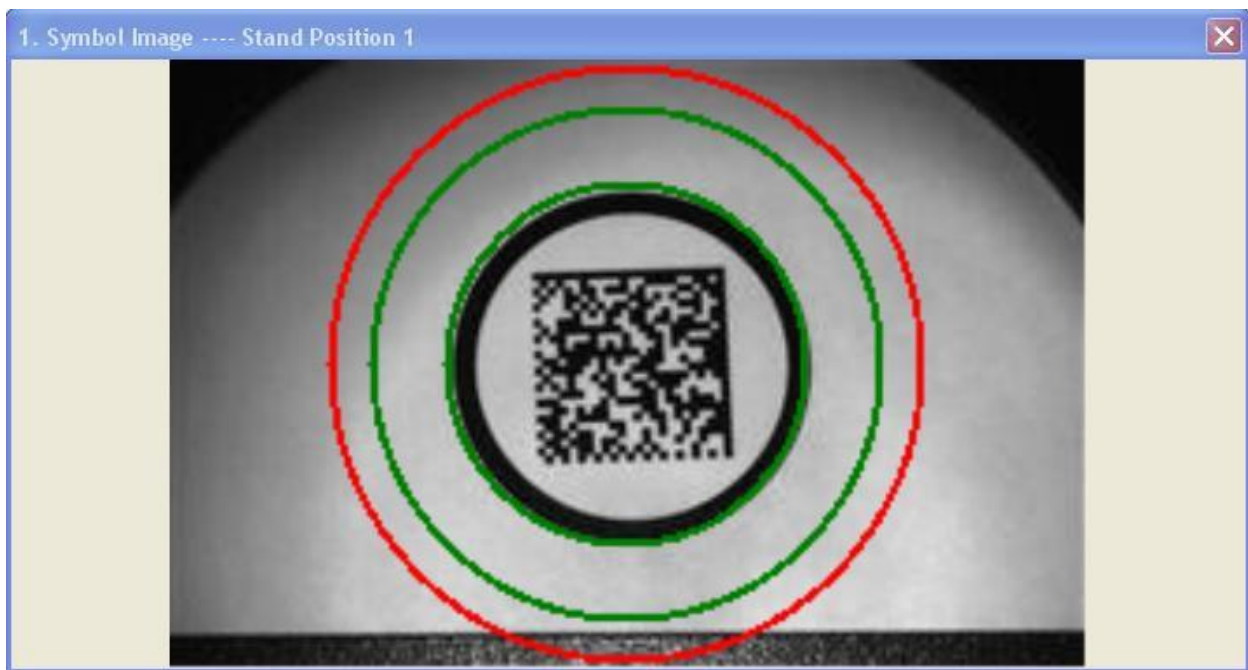

Figure 3-7
1. It is required to set the verifier stand to position 1 and place the Calibration Check Card in the center of the field of view (See Figure 3-7).